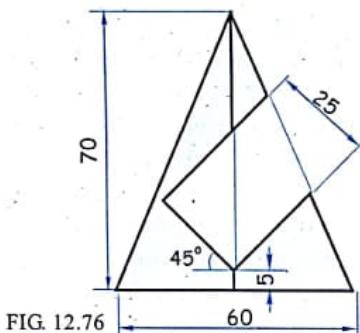

FIG. 12.76
39. The figure 12.76 given below shows the front view of a hexagonal pyramid standing on its base with two sides of base perpendicular to V.P. A slot is cut through as shown. Develop the lateral surface of the pyramid.